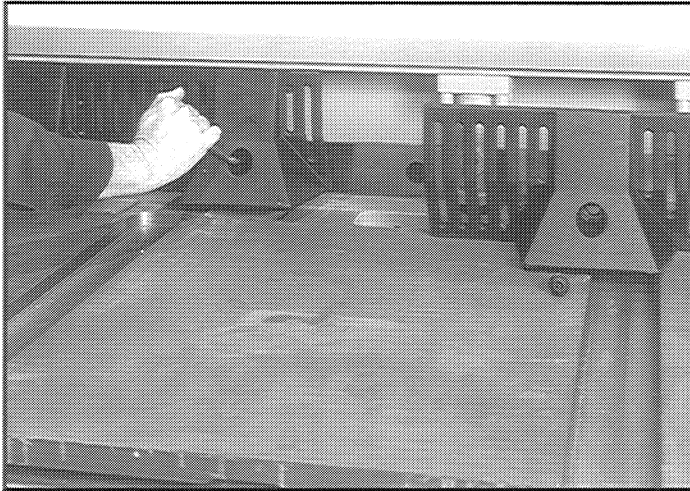

FIGURE 9-20 - Knife and holddown guards
1. **135, 250, 375 Series** (Refer to Figure 9-20):